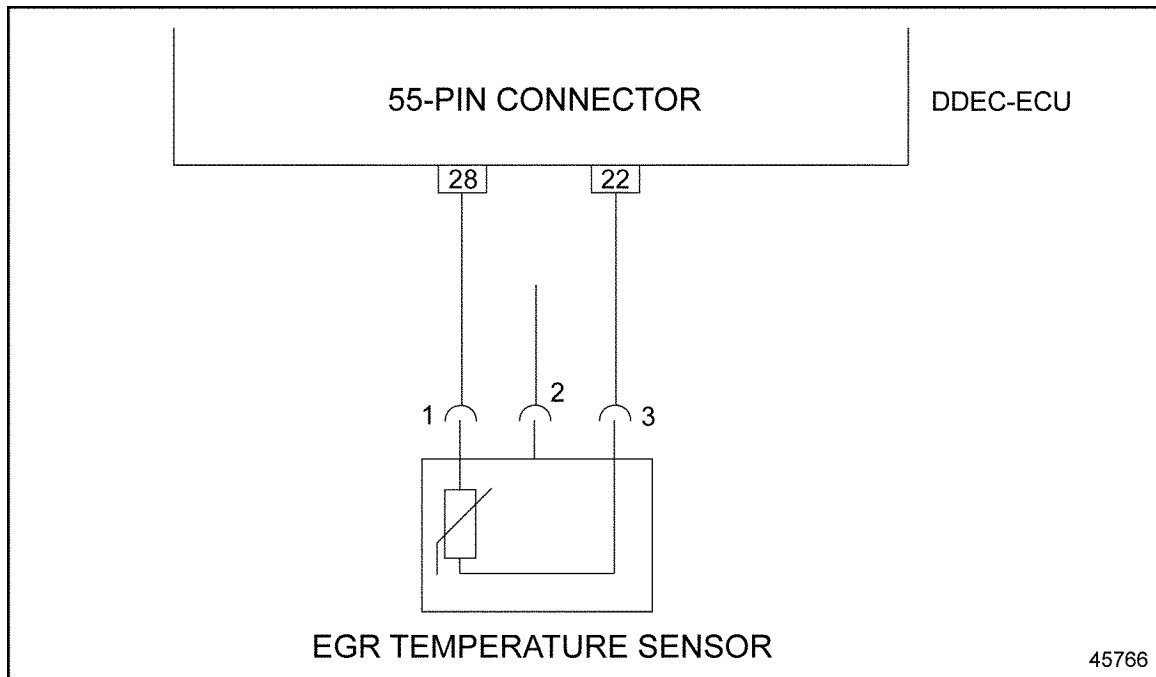

Figure 4-3 EGR Temperature Sensor Pins and 55-Pin Connector Wires
See Figure 4-3.
2. Measure the resistance between pin 28 of the 55-pin connector and pin 1 of the EGR temperature sensor connector. See Figure 4-3.
3. Measure the resistance between pin 22 of the 55-pin connector and pin 3 of the EGR temperature sensor connector. See Figure 4-3.